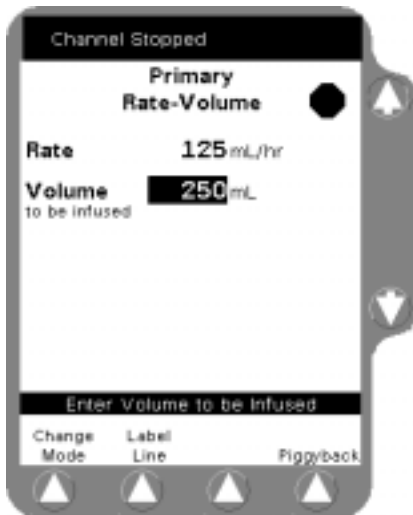

Figure 5-3 Label Line Soft Key on Programming Screen
If the pump is stopped or a label has not been previously selected and the feature has been enabled, a **Label Line** soft key is displayed on the Programming screen (Figure 5-3).
1. Press the **Primary** or **Piggyback** soft key to access the desired Programming screen (Figure 5-3).